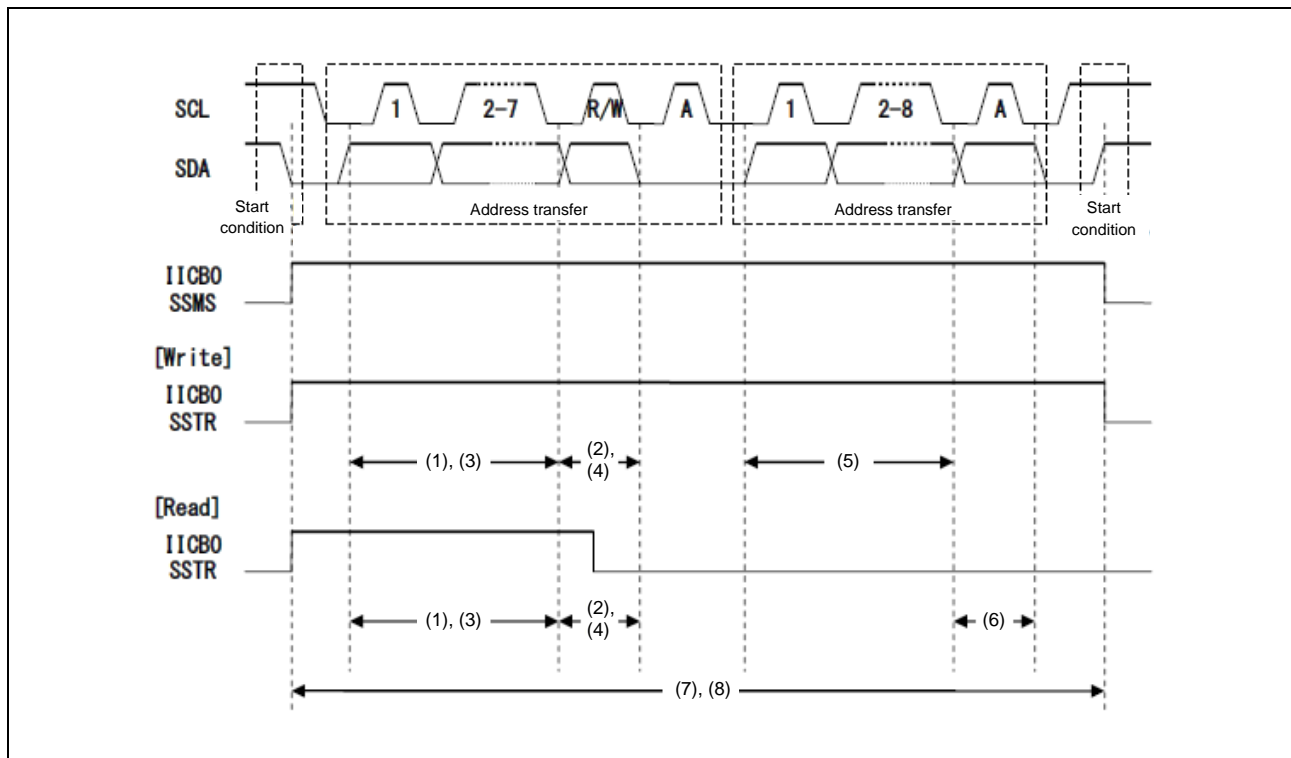

Figure 29.6-12 Arbitration Checking Range (from (1) to (8))
Figure 29.6-12 shows the checking range from (1) to (8).